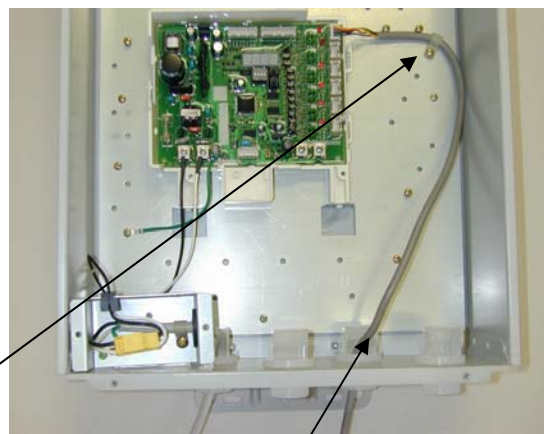

Figure 9
5. Starting with the water heater No. 1 route the communication cable through the opening at the bottom of the manifold controller box as shown in figure 9.
6. Connect the communication cable (MIC-K) from the water heater to the connector socket on the right side of the main communication PCB as shown in figure 9.
7. Fix communication cable with a clamp and one screw as shown in figure 9.